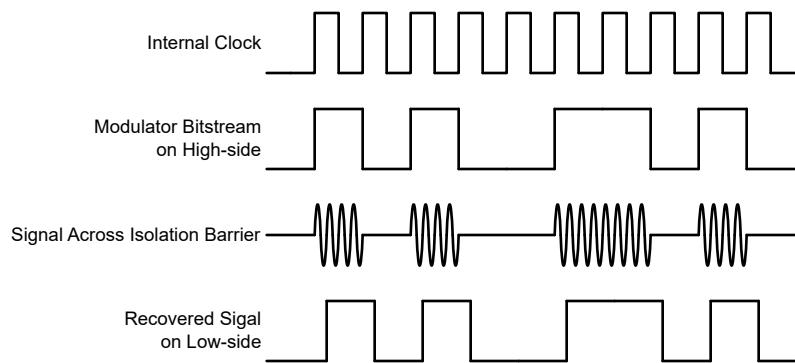

Figure 7-1. OOK-Based Modulation Scheme
As shown in Figure 7-1, the AMC0380R-Q1 uses an on-off keying (OOK) modulation scheme to transmit the modulator output bitstream across the SiO_2 -based isolation barrier. The transmit driver (TX) is illustrated in the Functional Block Diagram. TX transmits an internally generated, high-frequency carrier across the isolation barrier to represent a digital one. However, TX does not send a signal to represent a digital zero. The nominal frequency of the carrier used inside the AMC0380R-Q1 is 480MHz.